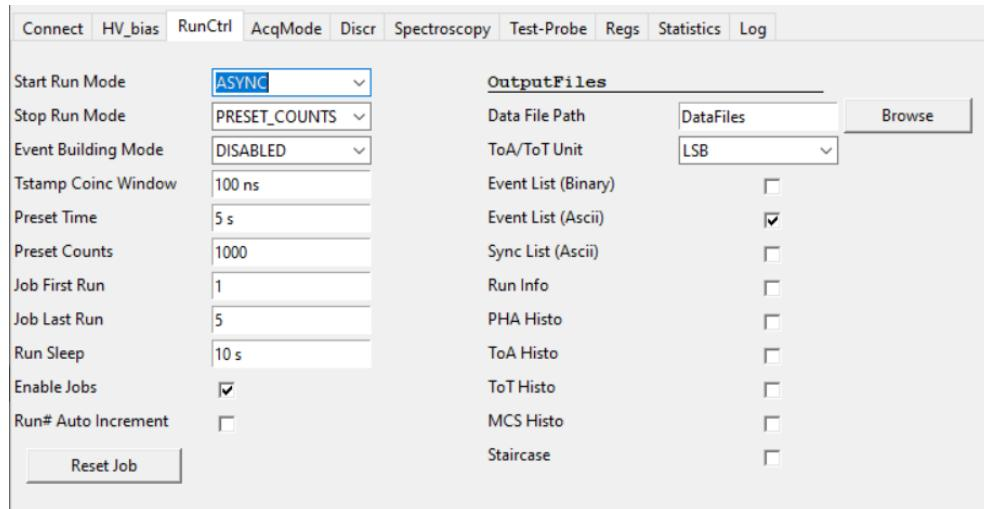

Fig. 3.52: Example of settings for a job acquisition.
9. In Fig. 3.52 the settings chosen to perform a job acquisition are presented.